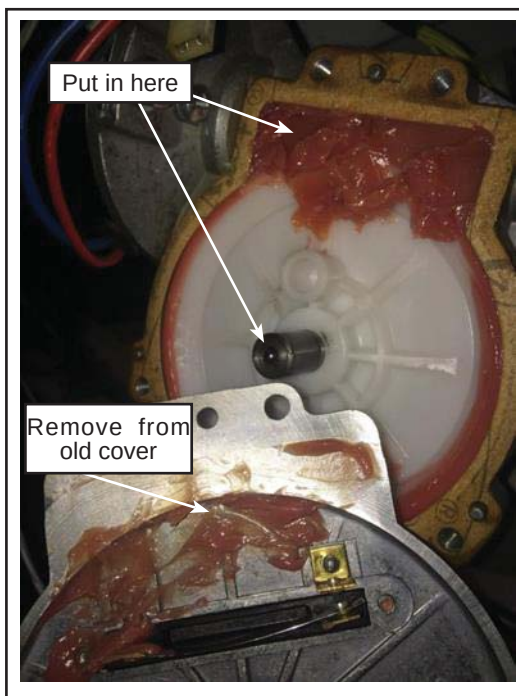

Figure 6 - Grease Recycling from Old Cover
- 1.9. Transfer any grease from the old cover into the worm gear cavity. See Figure 6.
- 1.10. Add a small dab of grease on the ball bearing/shaft end. See Figure 6.